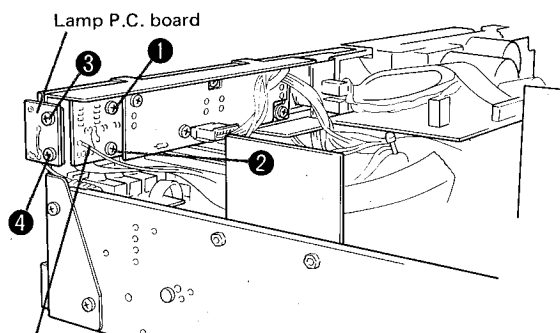

Fig. 9
3. Remove the screws 1 and 2 in Fig. 9 and then remove the dolby NR and HX-PRO indicator P.C. board.
4. Remove the screws 3 and 4 in Fig. 9 and then remove the lamp P.C. board.